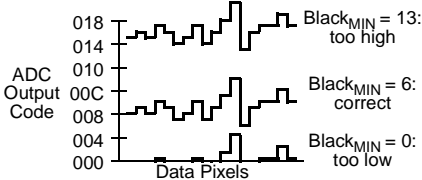

Figure 9: Setting the Static Offset DACs
- Reduce the Offset DAC value for each color so that the minimum black pixel is close to 0, but still greater than 0 (Figure 9). One offset DAC code = ~4.2 ADC LSBs, so change the DAC code to $(31 - \text{Black}_{\text{MIN}}/4.2)$.